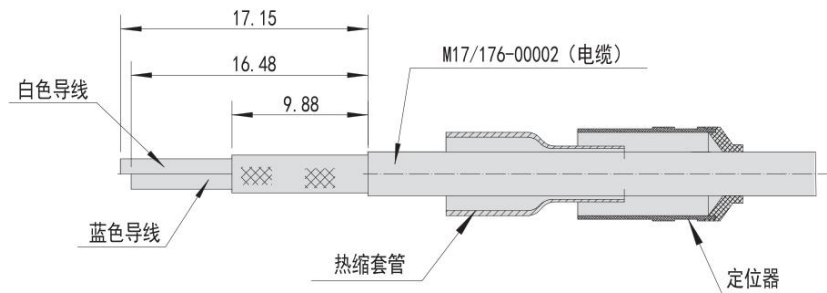

Figure 3.1
① As shown in Figure 3.1, proceed as follows: